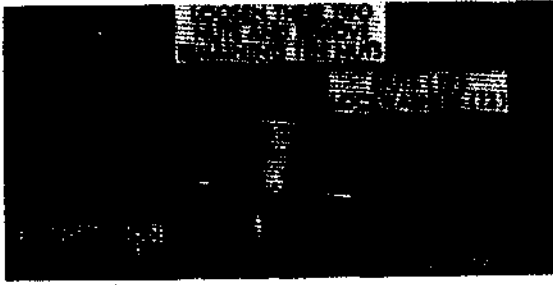

Figure 243. Transmission to flywheel housing cap screws
- (3) Loosen top two (2) transmission-to-flywheel housing cap screws and remove remaining ten (10) cap screws (fig. 243).
- (1) Remove two (2) top cap screws securing transmission to flywheel housing (fig. 243).
- (2) Pull transmission toward rear of truck to free main drive gear splines from clutch driven member.